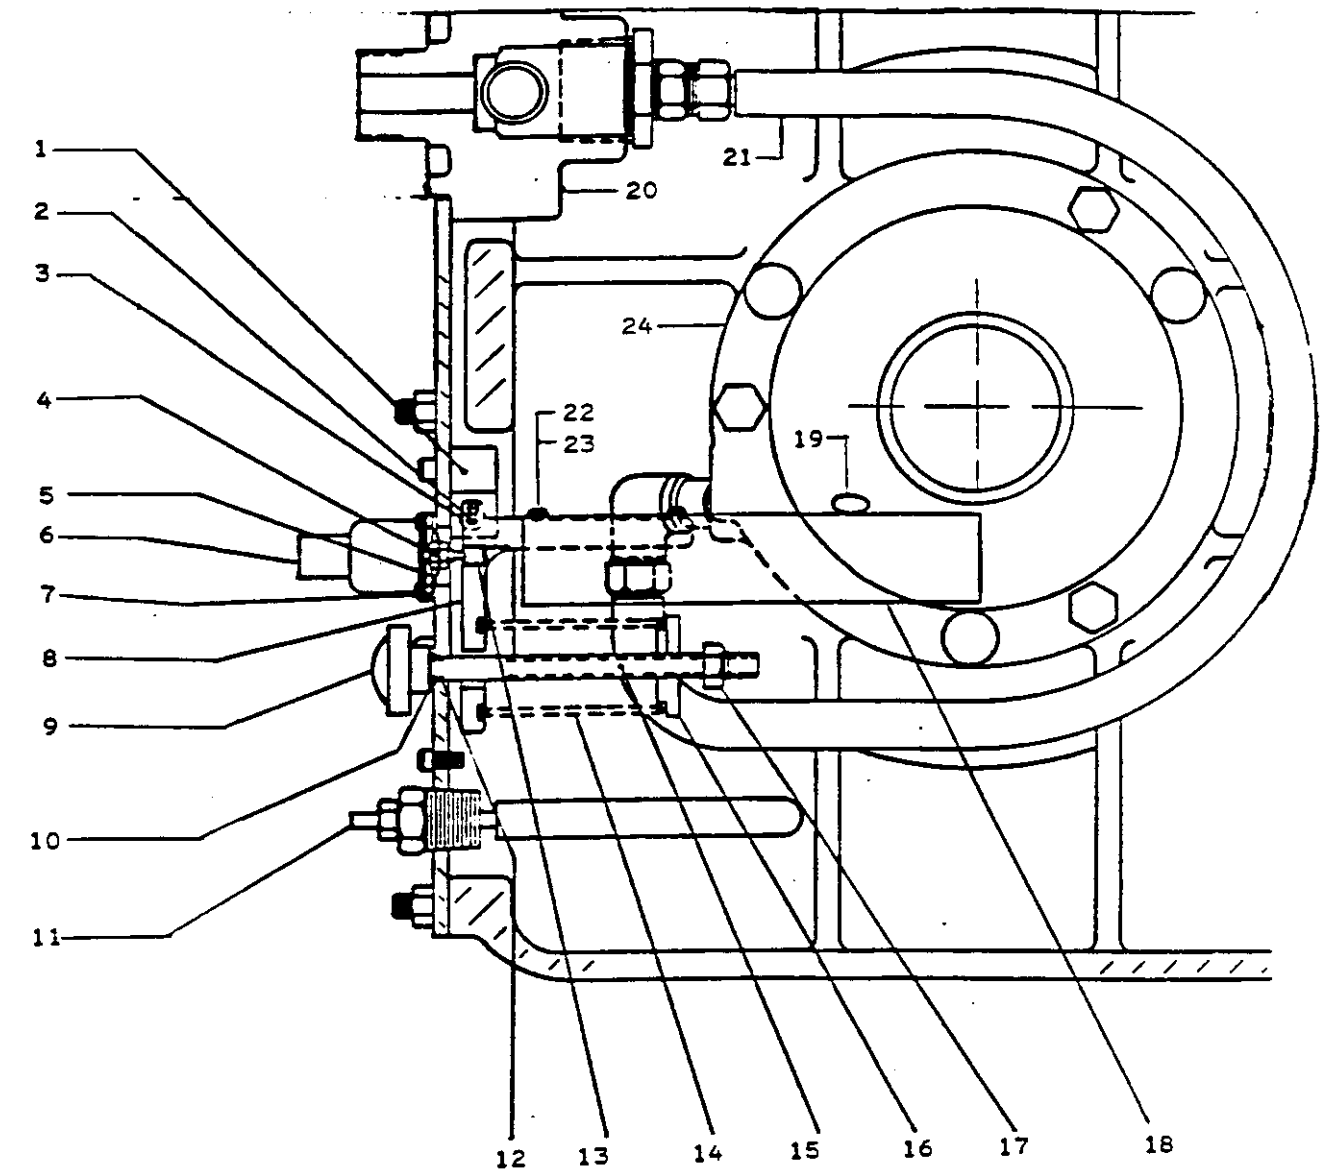

Figure 4. Cross Section of Control Plate with Hydraulic Control Parts
Adjust air pressure to pressure control (6, Fig. 4) to obtain desired discharge pressure in water lines.
Note: Changing or adjusting setting on adjusting stem (15, Fig. 4) will change spring tension (14, Fig. 4). This will change the relationship between air pressure signals and output (pump drive) shaft speed. Do not make adjustments on adjusting stem unless it is absolutely necessary.
CAUTION: Do not bend oil splitter (18, Fig. 4) when removing control plate. A misshapen oil splitter can seriously impair running operation of Hydro-constant.
- a. Oil pump outlet (1) must be connected to heat exchanger inlet (2).
- b. Heat exchanger outlet (6, hidden behind item #2) must be connected to oil filter inlet (3).
- c. Oil filter outlet (5) must be connected to bearing cap. (See item 21, Figure 4.)
- d. VS models will have a special oil feed line (4) to the top endbell bearing.